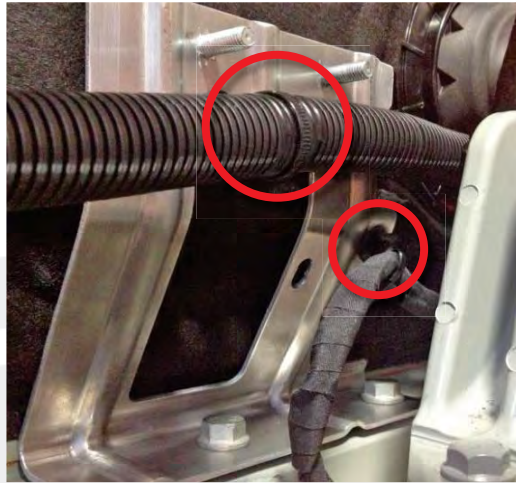

Figure 19
24. Install the 2 fir tree clips to the lower bracket (Figure 19).